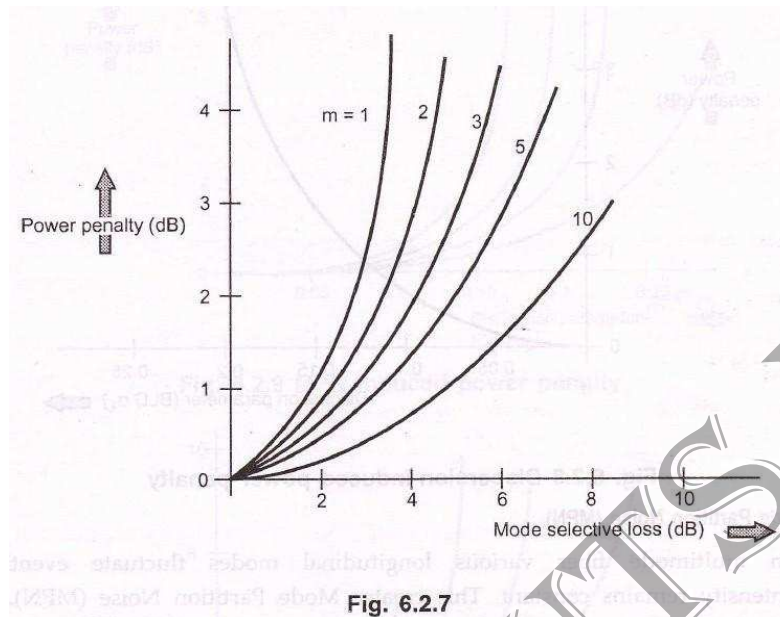

Fig. 6.2.7
- x Fig. 6.2.7 shows power penalty at